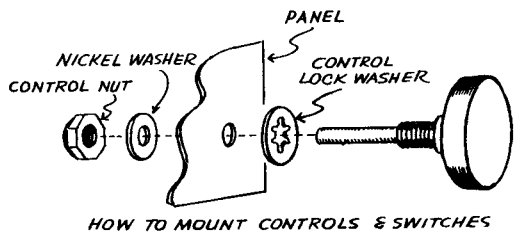

Fig. 6
- (✓) Mount a 10K control (V25) in position R. (Refer again to Figure 6 for mounting of controls and switches.)